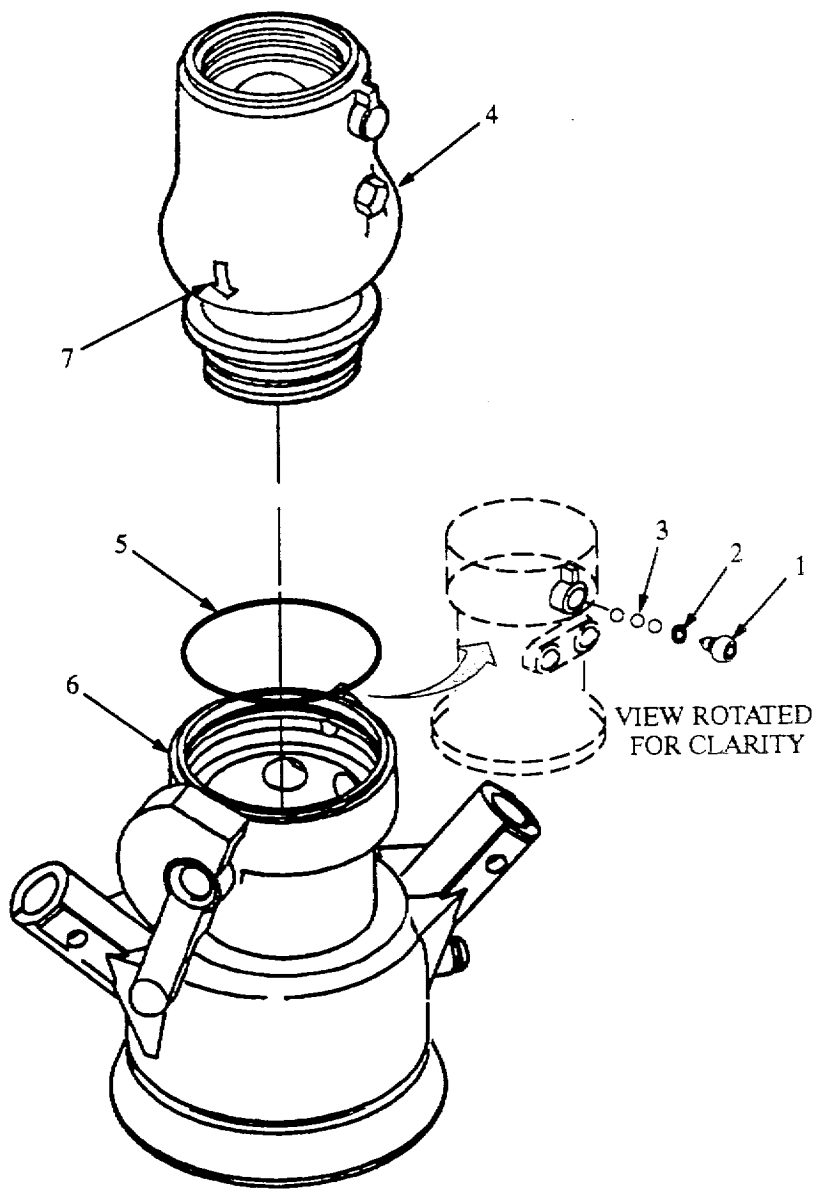

Figure 5-1. Regulator Removal and Installation (Model HTARS101).
- (1) (Model HTARS101) Remove screw (1, figure 5-1) and attached preformed packing (2) from regulator (4).
- (2) (Model HTARS101) Position regulator (4) so that opening for balls (3) is pointing down.
- (3) (Model HTARS101) Rotate regulator (4) back and forth on body (6) until 39 balls (3) are removed.
- (4) (Model HTARS 101) Remove preformed packing (5) from body (6).
- (5) (Model HTARS101) Position regulator (4) on table with outlet arrow (7) pointing up.